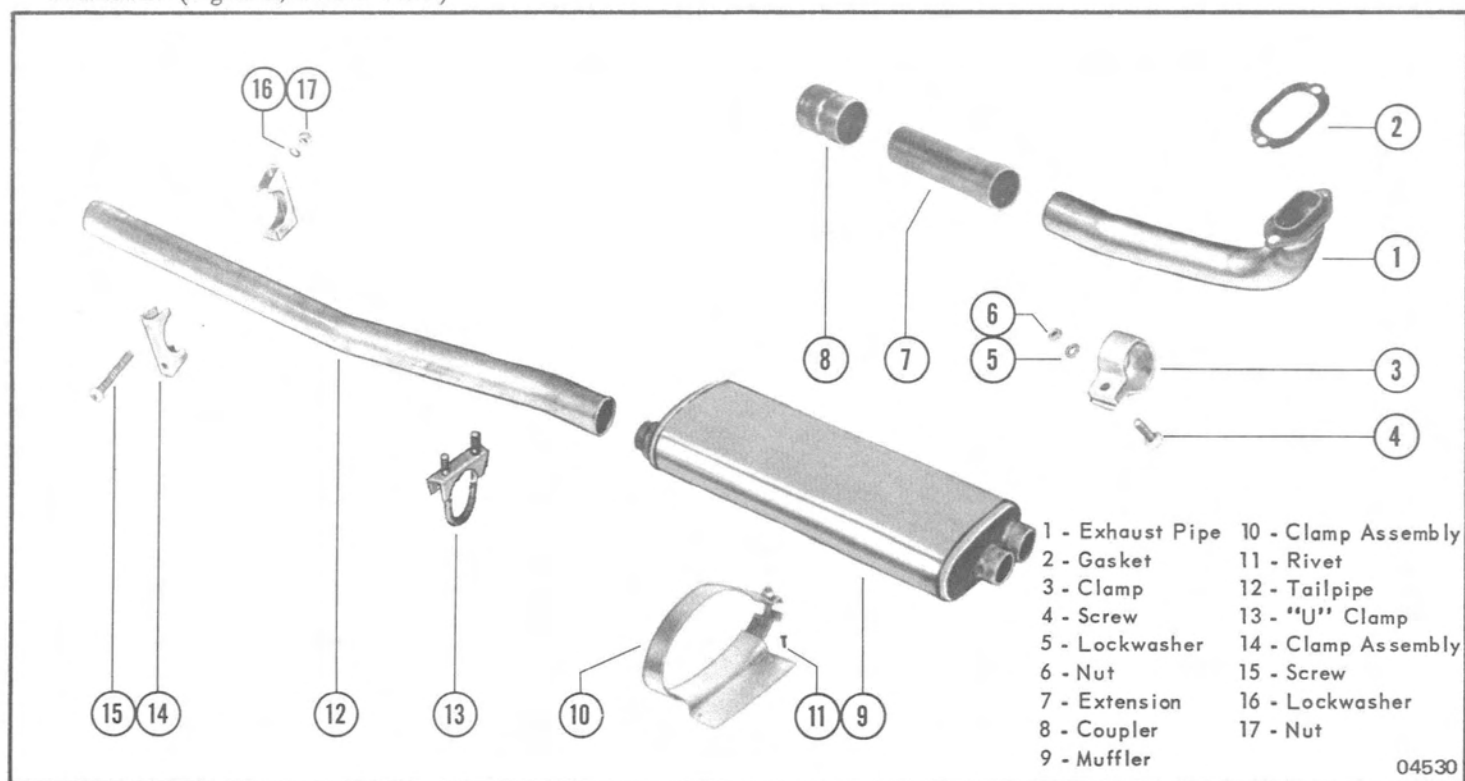

Figure 1. Exhaust Components - 220 Model
DISASSEMBLY (Figure 1)
5. Remove both muffler connectors and both exhaust pipe extensions. (Figure 1, Items 7 and 8)
6. To remove exhaust pipe assembly (Figure 1, Item 1), it will be necessary to remove engine from vehicle.